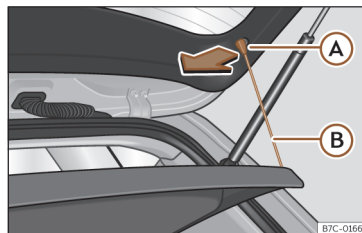

Fig. 105 In the luggage compartment: removing and fitting the shelf.
- Detach the cord loops»» Fig. 105 (B) from their hooks (A).
- Hook the loops»» Fig. 105 B to the rear lid.